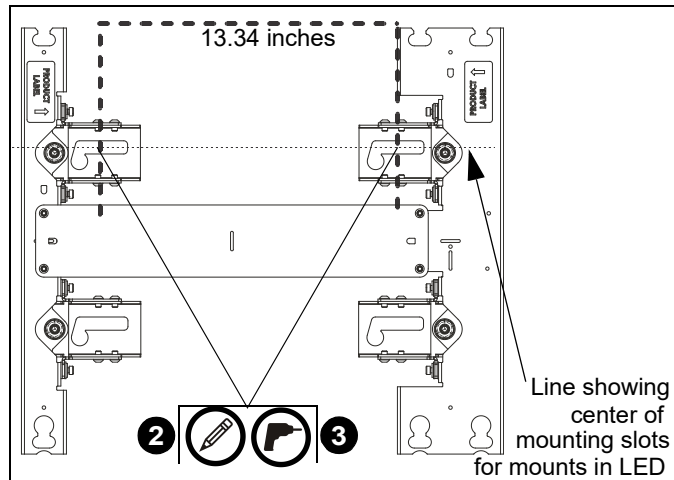

Figure 9
1. Hold furthest left, top wall mount against wall ensuring that mounting slot is lined up with center line marked on the wall in **Determining Installation Site** section. Double-check with a level. (See Figure 9)
2. Mark mounting holes in two top mounting slots along the horizontal line marked in Step 3. (See Figure 9)
NOTE: The mounting holes are 13.34" apart on-center for left and center. (See Figure 9)
3. Drill two pilot holes (see Table 1 for size) at each location marked in Step 2 (See Figure 9) and follow fastener information located in Table 1.